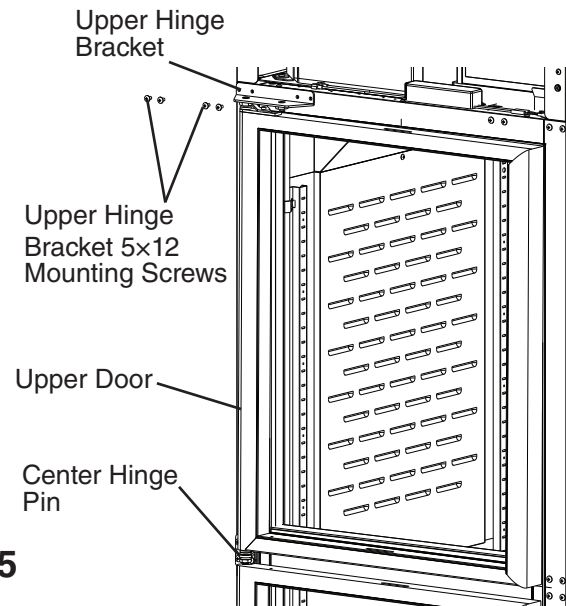

Fig. 55
- 19) While supporting the upper door and upper hinge bracket, place the upper door onto the upper center hinge pin on the center hinge bracket in the closed position, then secure the upper hinge bracket to the cabinet. See Fig. 55. **NOTICE! Be sure to reuse the bracket screws for mounting the bracket as the bracket screws are 5x12 and filler screws are 5x10.**